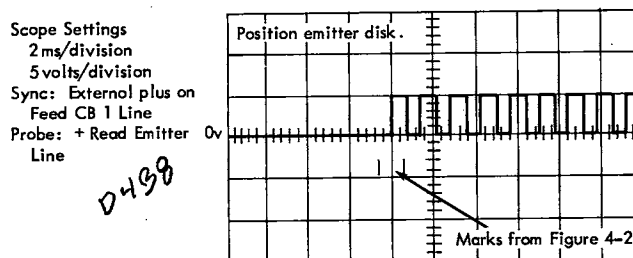

Figure 4-3. Adjusting First Emitter Pulse
4. Scope the output of the emitter amplifier. Adjust the position of the emitter disk until the first emitter pulse is about in the center of the column 1 data pulse (Figure 4-3).